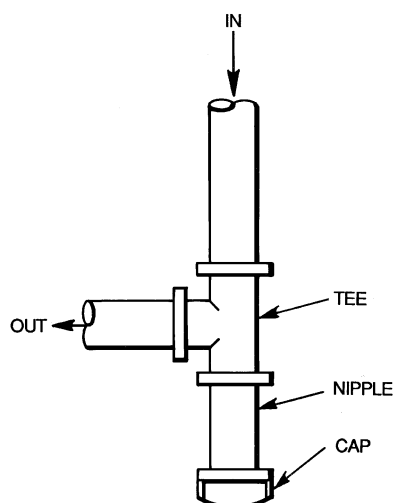

Fig. 8 — Sediment Trap
4. Install sediment trap in riser leading to heating section per Fig. 8. This drip leg functions as a trap for dirt and condensate.